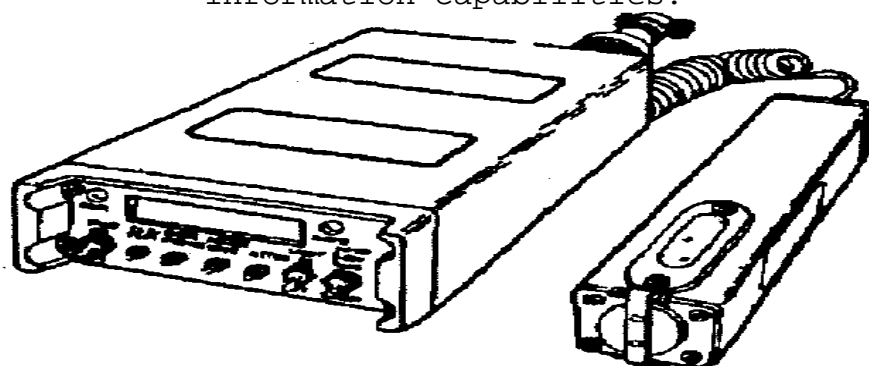

Figure 5-13. AN/VDR2 Radiac Set
e. The AN/VDR2 is used to locate and measure radioactivity in the form of gamma rays and beta particles (Figure 5-13). It displays dose rates and total accumulated dose resulting from fallout. The AN/VDR2 has the following: